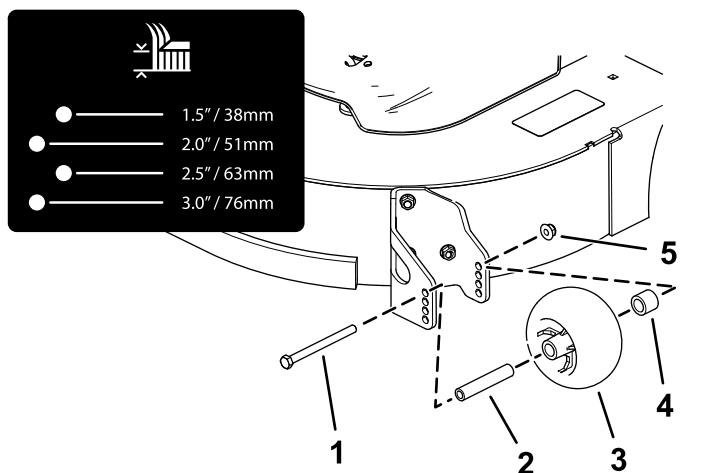
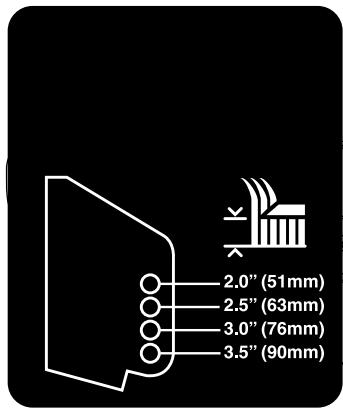

**Figure 26**
**Figure 27**
4. Adjust the anti-scalp rollers as shown in Figure 25, Figure 26, Figure 27, and Figure 28.